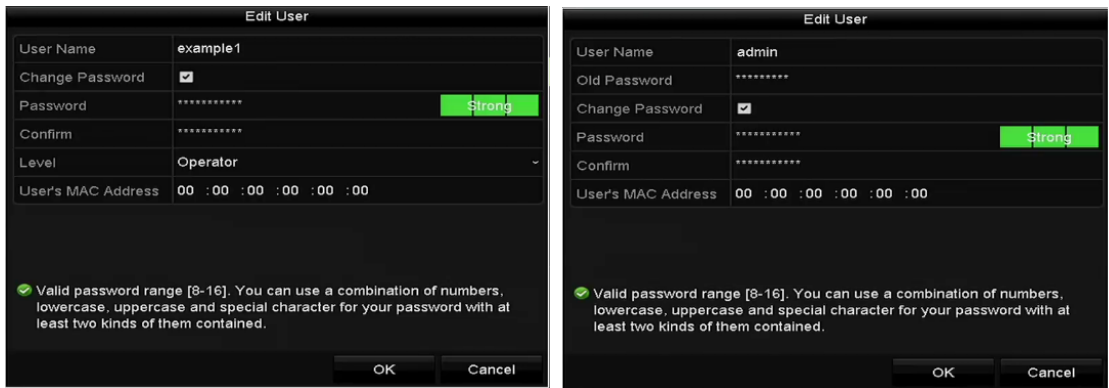

Figure 16. 10 Edit User Interface
3. Click the  icon to enter the Edit User interface, as shown in Figure 16. 10.